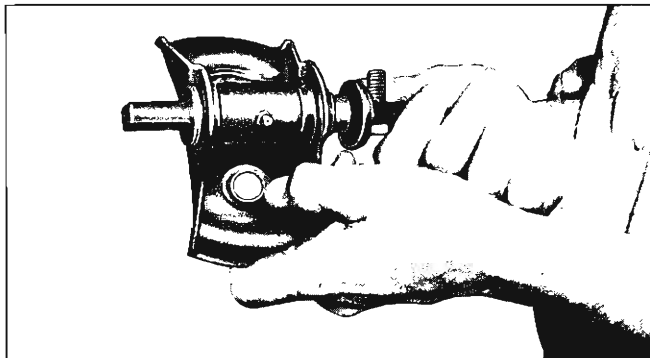

Fig. 27—Disassembling Spring Seat—Chevy II
3. Unscrew pivot shaft, drawing free end of shaft through threaded sleeve (fig. 27).